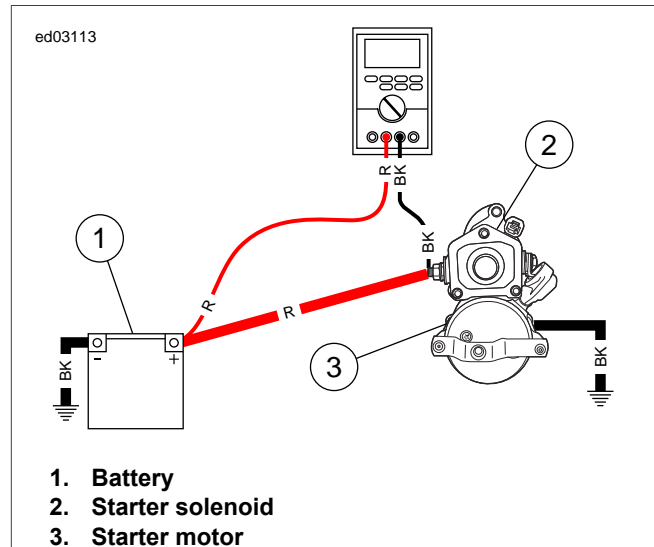

Figure 1-14. To Starter Solenoid Battery Terminal
2. See Figure 1-14. Move black meter lead to battery side post on starter solenoid. Crank starter. Observe voltage drop.